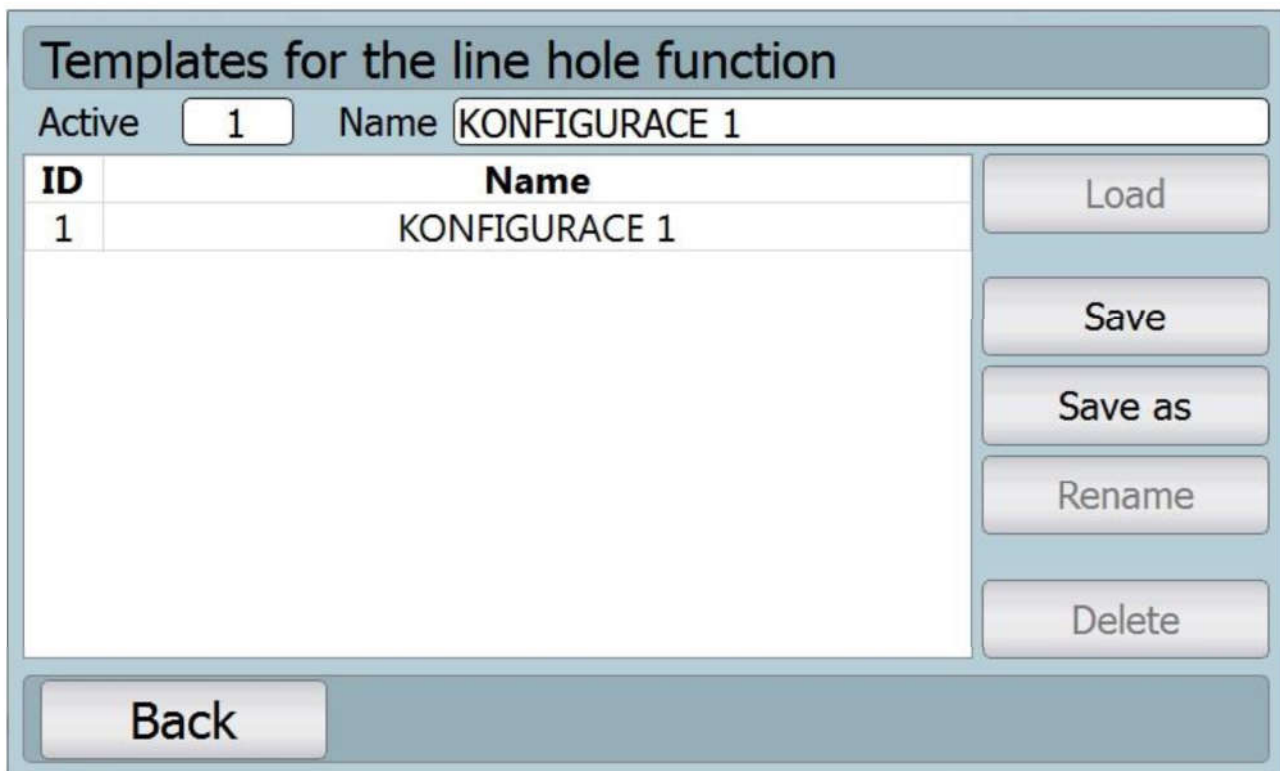

Fig. 20: Hole drilling on line – templates
- ⑩ It includes a function for the administration of individual settings which can be reached by button „Sablony“ (template) in top right.
- ⑩ The template administration opens (see fig. 20: Hole drilling on line – templates).
- ⑩ As soon as all parameters are set and they will be used repeatedly, after opening the templates enter „Ulozit“ (save) for rewriting the actual template (active) with new set values or it is possible to use „Ulozit jako“ (save as) to create new template.
- ⑩ After the line marking with the respective template, it can be loaded, renamed or deleted
- ⑩ Saving by means of templates considers also individual setting of individual holes (via manual adjustment).